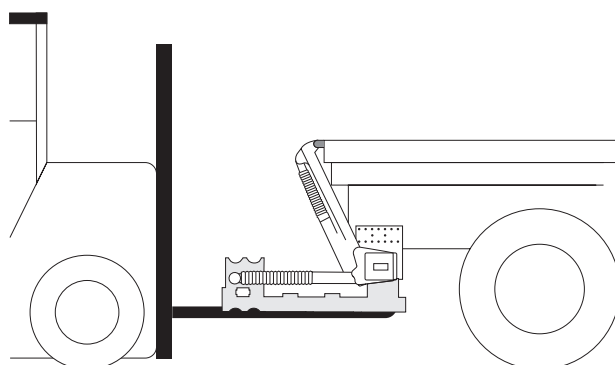

Figure 20. Use the lift's packaging and a forklift.
6. The support frame should be positioned as high as possible within the specified C dimension. Adjust the frame to the ideal height under the chassis. Use the lift's packaging and a forklift. See Figure 20. The frame must be positioned parallel with the floor of the vehicle body and must not be in contact with the vehicle frame; there must be a few millimetres of play. If necessary, adjust the angle of the arms by carefully operating the lift.